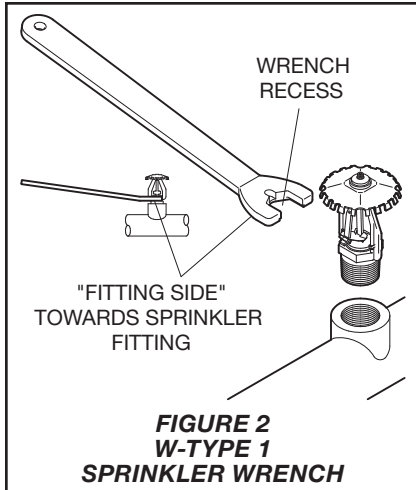

FIGURE 2
Step 3. Wrench-tighten the Model EC-25 Upright Sprinkler using only the W-Type 1 Sprinkler Wrench (Ref. Figure 2) and by fully engaging (seating) the wrench on the sprinkler wrench flats.